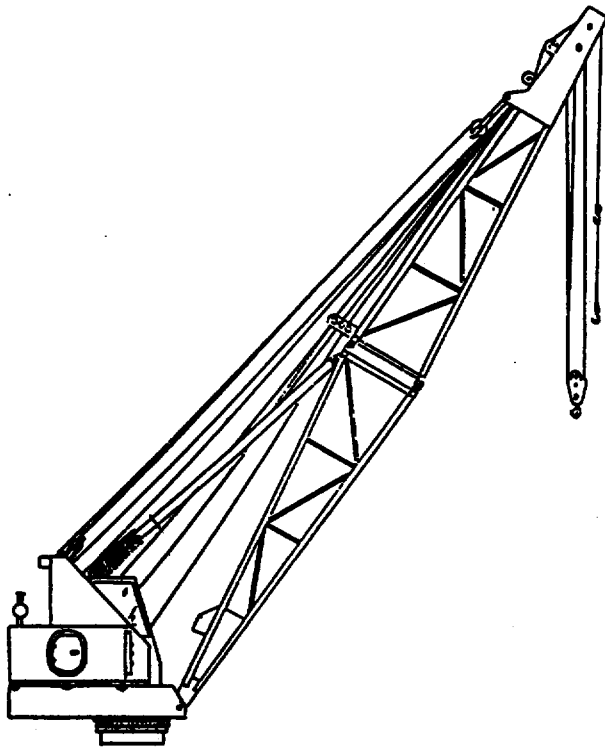

Fig. 10-1 CG-300 Crane & D6 Diesel Hammer
- a Having previously determined the actual and projected depth of water at the assigned position (AP), you can determine the length of pile needed. Three pieces of information are needed to determine the actual length of pile(s) required: (1) depth of water, (2) type of structure, and (3) the fixity required. If a wood pile needs to be cut, ensure that you cut it squarely with the axis of the pile, so the pile will receive the full force of the hammer blows. Some units sharpen the tips (small end) of the pile to facilitate driving. A very sharp tip should be avoided to prevent the possibility of brooming the point. Metal points are often nailed on the tips to allow the pile to be driven in hard bottom. Steel piles are driven in nearly the same manner as wooden piles.
- 5 Pile Driving Equipment. All but one vessel has a CG-300 pedestal mounted crane and Delmag D6 diesel-fired hammer (See **Figure 10-1.**) On barges with the CG-300 cranes, leads can be tilted to permit the driving of batter (angled) piles. The CG-300 crane has three leads; one for holding the pile, one for holding the lead and one for starting the hammer.